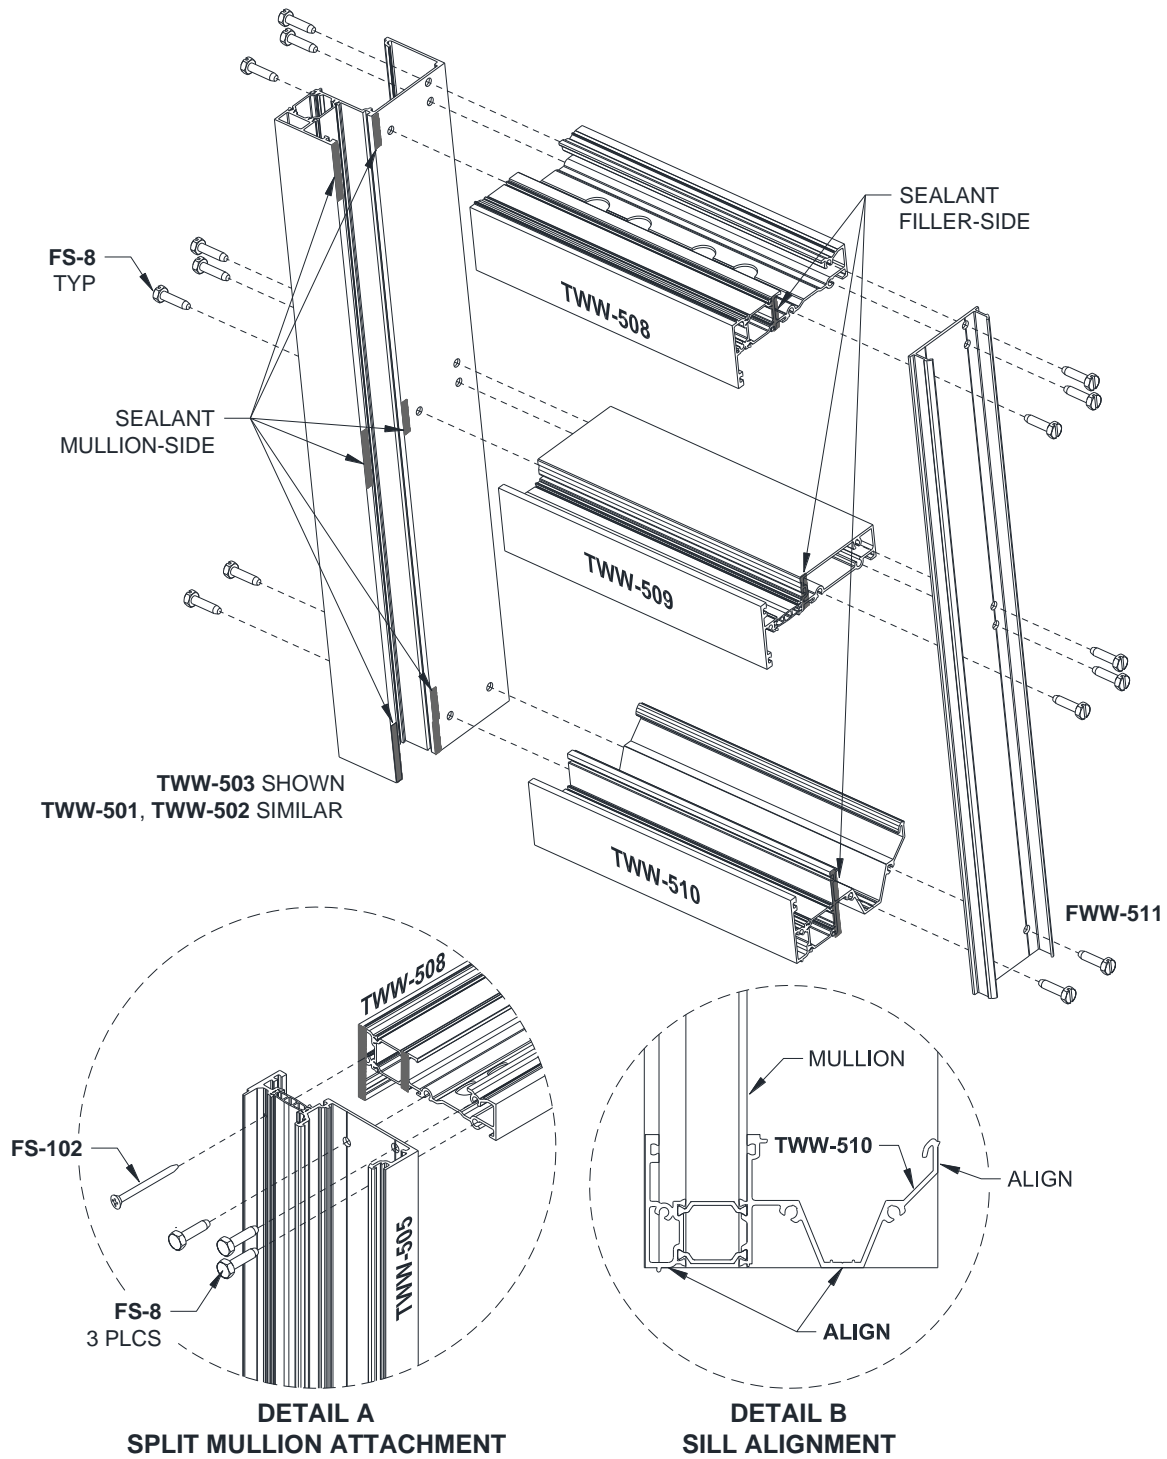

Figure 30: Panel Assembly
- 12.1.2 Apply Sealant to the end of the Head, Horizontal, and Sill that will attach to the Mullion or Jamb. See *Figure 27* and *Figure 30*.
- 12.1.5 To ensure a proper fit into the Sill Receptor, align Sill to Vertical at the interior edge and the bottom, as shown in *Figure 30, Detail B*.
- 12.1.6 Attach Horizontals to Verticals using **FS-8** fasteners, referencing *Figure 30*,
NOTE: Captured Split Mullion requires **FS-102** fasteners at exterior half, as shown in *Figure 30, Detail A*. Corner Mullions require **FS-9**, per *Figure 10*.